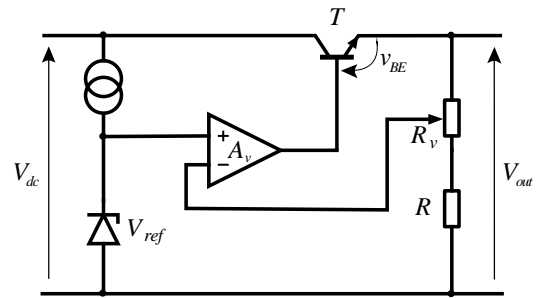

Figure 4
- c. (i) Why are the two current levels calculated in part 'b' above not equal? (3)
- (ii) Explain why this is desirable for correct operation of the device. (3)
4. The circuit shown in Figure 4 is a simple series voltage regulator circuit, with an adjustable output voltage, V_{out} , which is controlled by varying R_v . The component values associated with this circuit are:
- a. Derive an expression for the output voltage, V_{out} , of the circuit shown in Figure 4 in terms of V_{dc} , V_{ref} , R_v and R . You may assume that the setting of R_v can be modelled by two resistors R_{v1} and R_{v2} such that $R_v = R_{v1} + R_{v2} = 47k\Omega$ and that the gain of the error amplifier is ideal ($A_v = \infty$).
- b. By redrawing Figure 4, show how a current limiting capability could be added to the circuit. Explain how your current limiting circuit works.